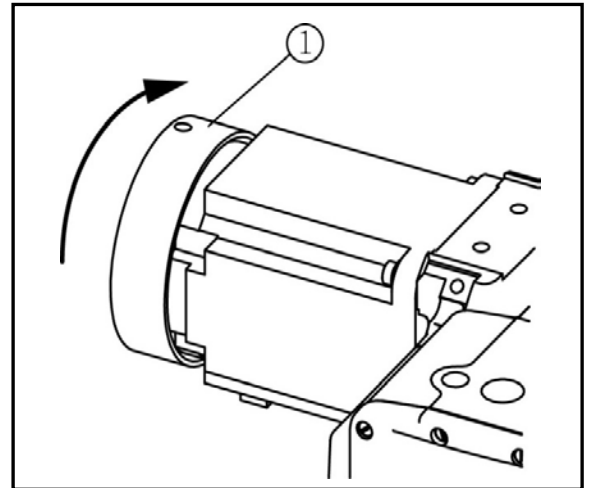

Fig. 14
The rotation of the motor pulley (hand wheel) ① is in clockwise direction from the operator side. (Fig.14)